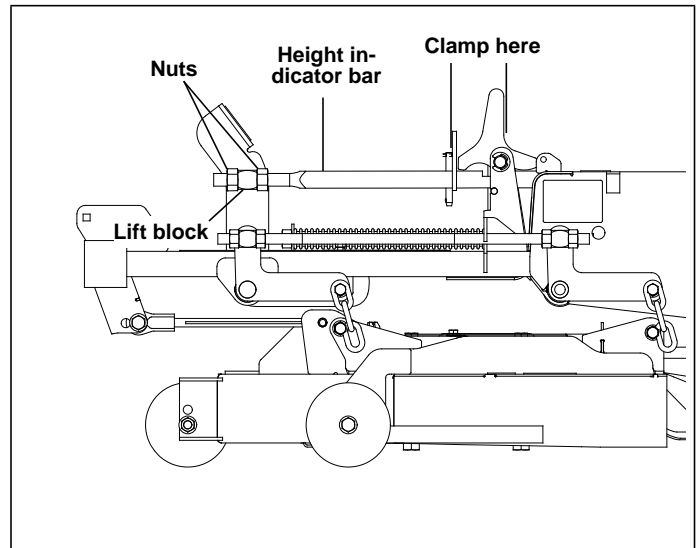
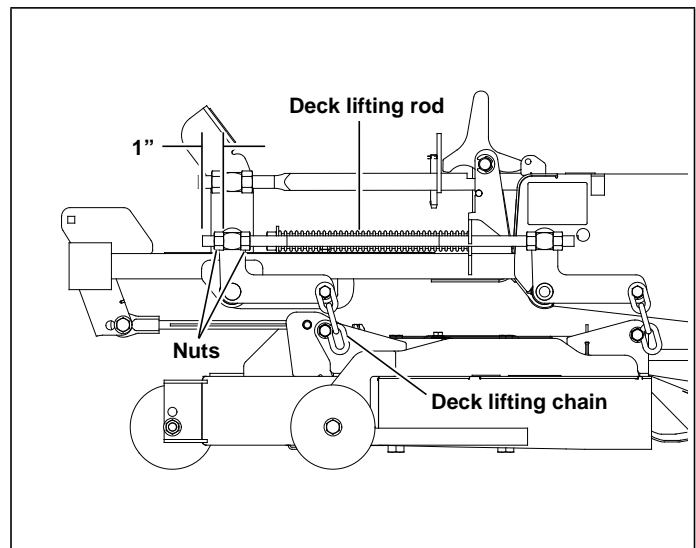
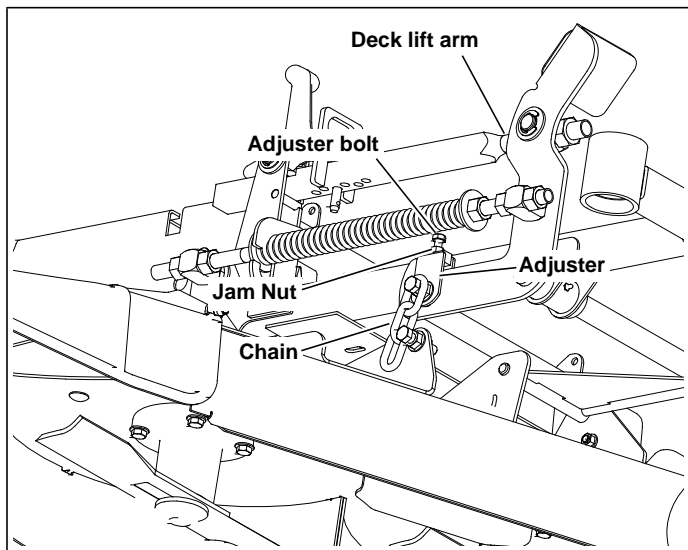

Figure 6-2
Figure 6-3
Figure 6-4
5. Clamp the height adjusting stop against the stop handle. This will assure that the height will not move during the setting process. Otherwise, spring pressure from the deck lift springs will tend to pull the stop away from the handle. Figure 6-2
6. Loosen all nuts on the deck lift threaded rods until **all** the deck lift chains are loose **and** the deck is sitting tightly on all four blocks. Figure 6-2, Figure 6-3 & Figure 6-4
7. Loosen the two nuts on the front of height indicator so that the foot pedal is free. Figure 6-2
8. Set the amount of threads protruding on the deck lift rod from the lift block at approximately 1" (right side). Figure 6-3
12. While keeping the chain tight, tighten the nuts against the deck lift block on the height indicator rod, just enough to carry most of the deck weight on that side — the block should be able to move with only a slight drag. Figure 6-2
15. Loosen the hardware that clamps the adjuster to the deck lift arm. Figure 6-4
16. Loosen the 5/16" jam nut on the adjuster lift chain, and back the adjuster bolt out to allow the adjuster to move up and down freely. Figure 6-4
18. Tighten the adjuster bolt jam nut to prevent the adjuster bolt from moving. Figure 6-4
19. Tighten the hardware holding the chain and adjuster onto the deck lift arm. Figure 6-4